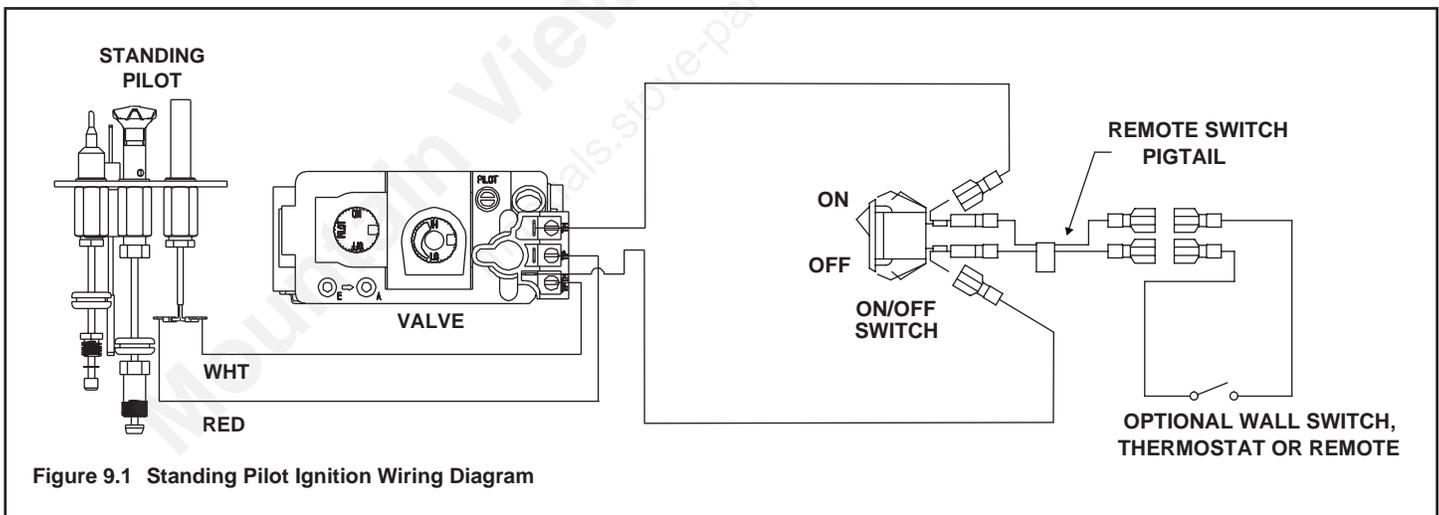

Figure 9.1 Standing Pilot Ignition Wiring Diagram
- If desired, an additional wall switch or thermostat may be added to the system as shown in Figure 9.1.